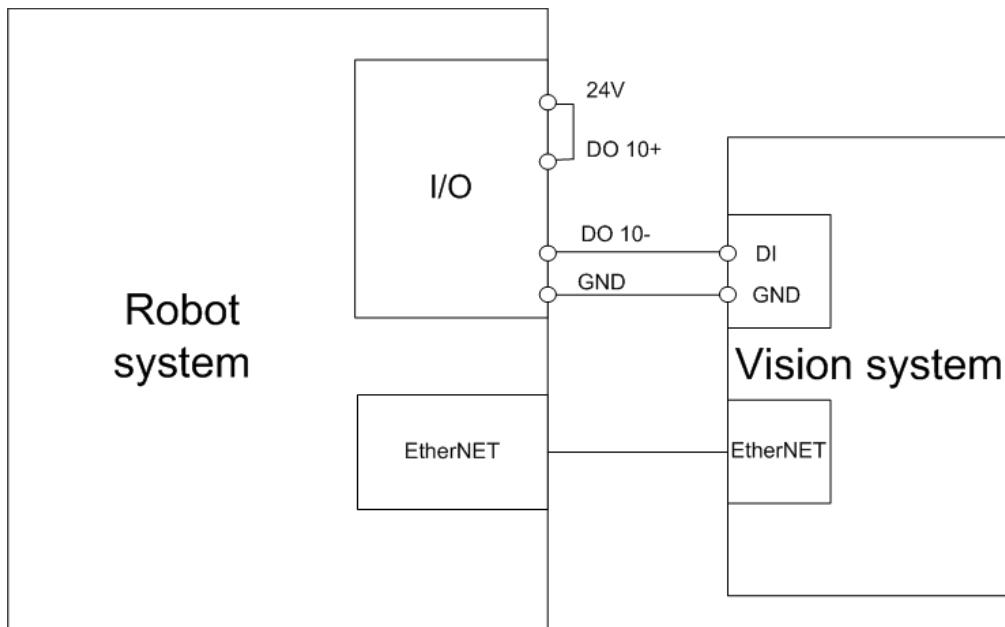

Figure 5.5 Vision system connection (2)
- If the robot system version is **V3.0.0.20190219121343** or later, the **DO 10** is triggered to take photos for detecting, as shown in Figure 5.5.